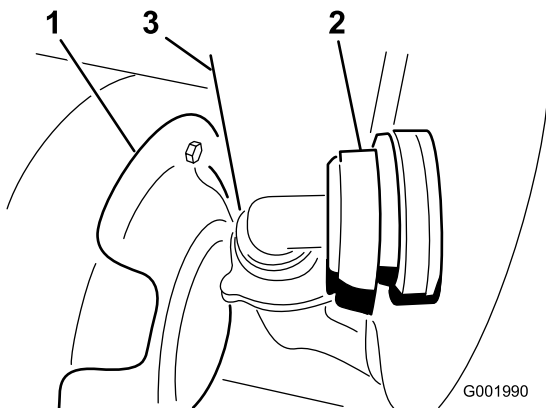

Figure 53
3. Disconnect the hose located on the lower-front face of the tank (Figure 53).
Note: You may need to push the heat shield (Figure 53) back as you remove the cover.
7. Connect the hose on the front of the tank (Figure 53).